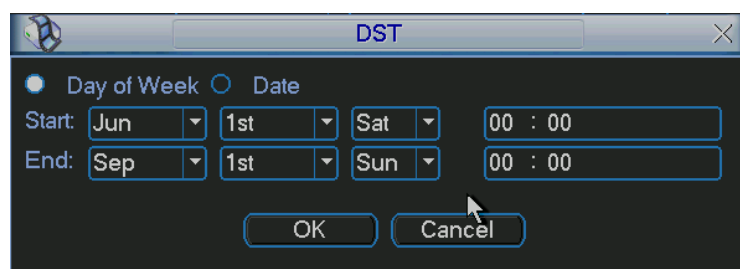
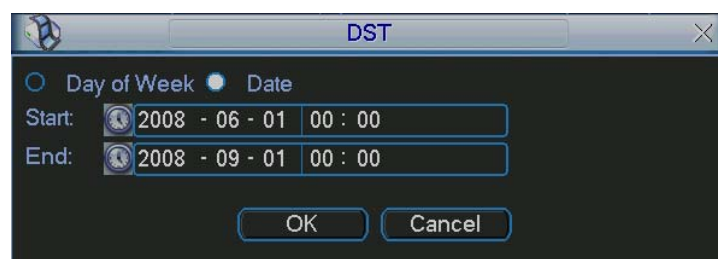

Figure 5-4
Figure 5-5
- DST: Here you can set DST time and date. Please enable DST function and then click set button. You can see an interface is shown as in Figure 5-4. Here you can set start time and end time by setting corresponding week setup. In Figure 5-4, enable date button, you can see an interface is shown as in Figure 5-5. Here you can set start time and end time by setting corresponding date setup.